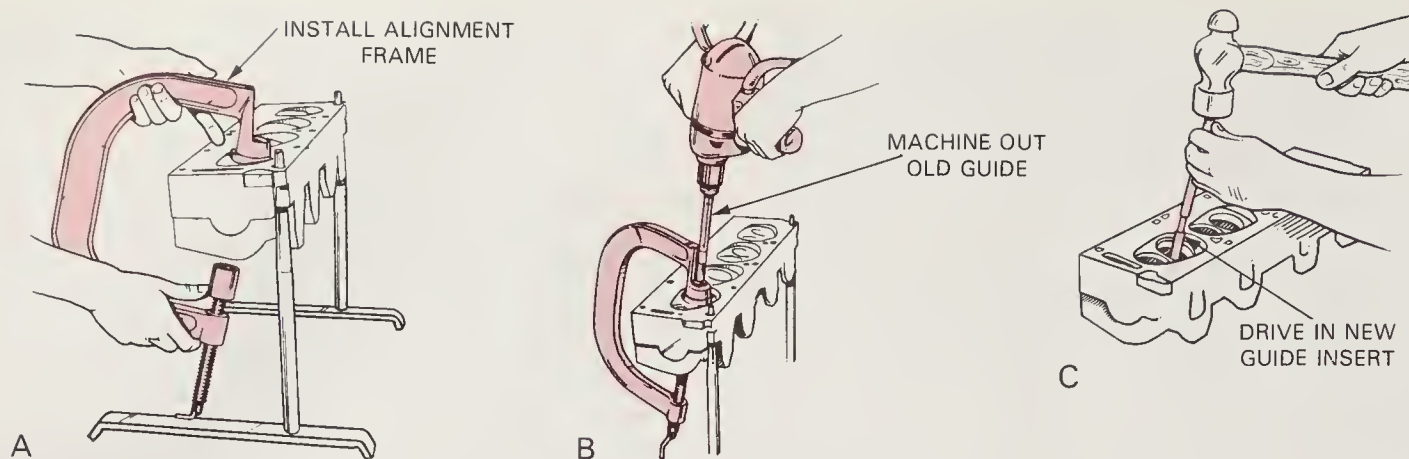

Fig. 48-14. Installing valve guide insert. (Lisle Tools)
3. **INSTALLING VALVE GUIDE INSERT** (old guide pressed or machined out and new guide pressed into head), Fig. 48-14.